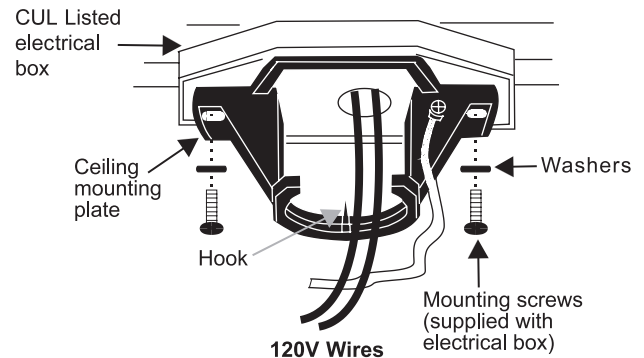

Figure 6
Step 2. Pass the 120-volt supply wires through the center hole in the ceiling hanger bracket as shown in Fig. 6.